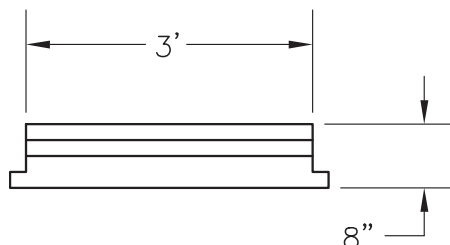

Fig. 36-7
- Draw the architectural window symbol shown in Fig. 36-7. The dimensions not given are **2"** in length. Do not place dimensions on the drawing. (The symbol represents a double-hung window for use in architectural floor plans.)